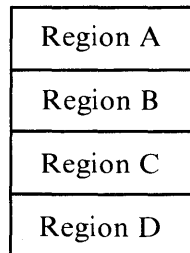

Figure 4-1 Example Memory Allocation
- (1) A program is loaded at the CCP level through an operator command. The CMD file header is read, the entire memory image consisting of the program and its data is loaded in region A, and execution begins.
- (2) This program, in turn, calls the BDOS Program Load function to load another program into region B, and transfers control to the loaded program.
- (3) The region B program then allocates an additional region, C, followed by a region D. The order of allocation is shown in Figure 4-1.